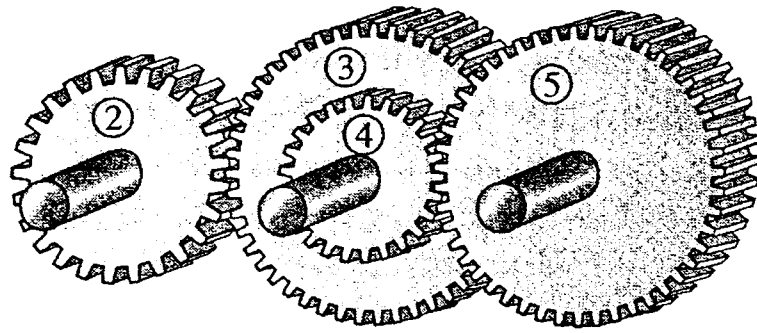

Figure Q6[b]
[c] Knowing that sun gear (S) rotates at 120 rpm clockwise and ring gear (I) or annulus rotates at 80 rpm counter clockwise as shown in Figure Q6[c], determine :
- (ii) the angular velocity of the planet gear (P).